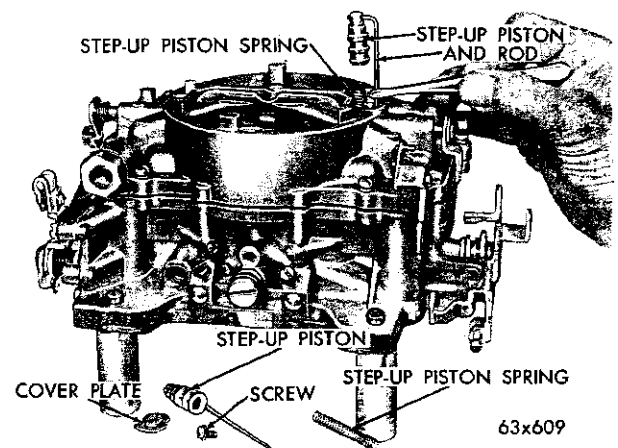

Fig. 62—Removing or Installing the Step Up Pistons
(4) Remove the step-up piston cover plate screws and plates. (Hold a finger over plate when removing screws to prevent the piston and metering rods from flying out.) Remove the step-up pistons and metering rods, as shown in Figure 62. Remove the step-up piston springs.
(5) Remove the choke cable bracket, then remove the ten air horn attaching screws (1 screw recessed). Then lift the air horn straight up and away from main body. Be careful not to bend or damage the floats. Remove the pump plunger spring from the pump well.